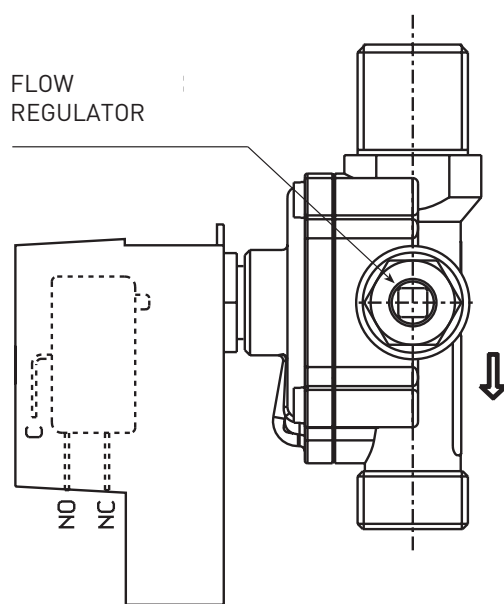

Fig. 5
2.2.2 D.H.W. production on "DUETTO HE 25 ErP" version (fig. 5)
To adjust water flow use the water pressure gauge flow regulator (fig. 5):